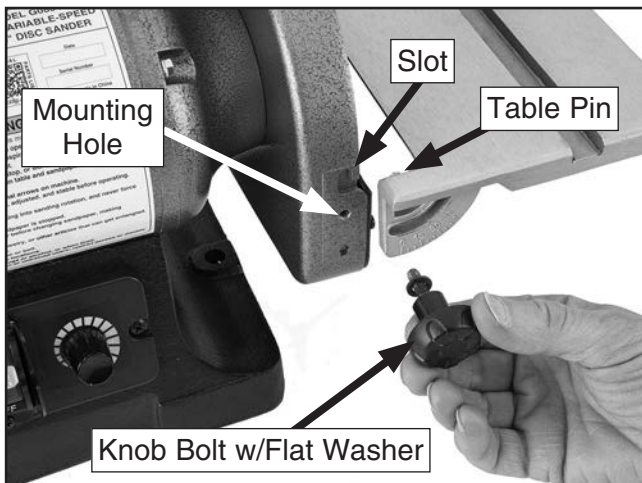

Figure 6. Disc sander table pins.
1. Install disc sander table with (2) knob bolts and (2) 6mm flat washers, as shown in **Figures 6–7**.